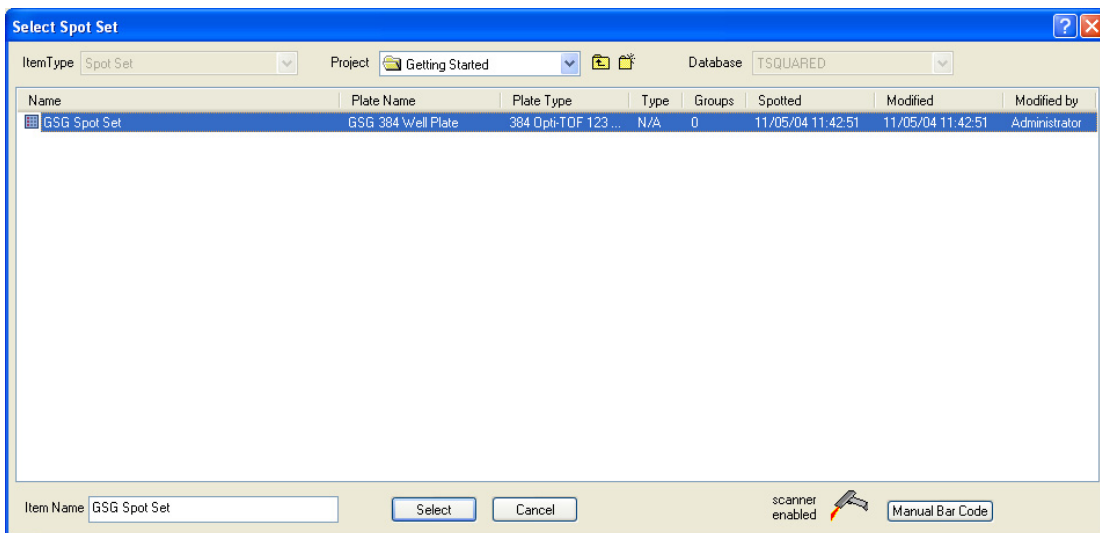

Figure 3-8 Select Spot Set Dialog Box
6. Select **Plate > Load Plate**. The Select Spot Set dialog box opens (Figure 3-8).